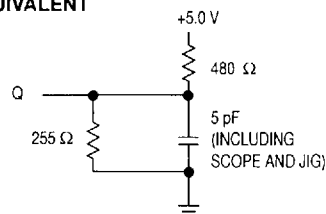

Figure 1B.
5. Transition is measured $\pm$ 500 mV from steady-state voltage with load of Figure 1B.
6. Transition is measured ± 500 mV from steady-state voltage with load of Figure 1B.